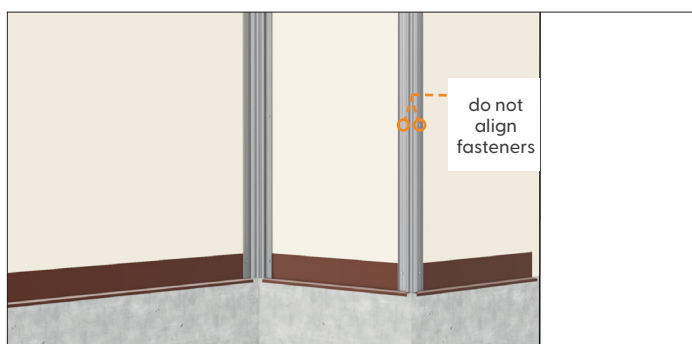

Figure 17.2
6. On any corner profile or profile with two fastening flanges, alternate the fastening patterns from one flange to the next. Avoid aligning fasteners to prevent pillowing or buckling, except at ends. At any end of a trim having two flanges fasten each flange no further than 2". Fasten all vertical and horizontal trims to studs when possible. (Figure 17.2)